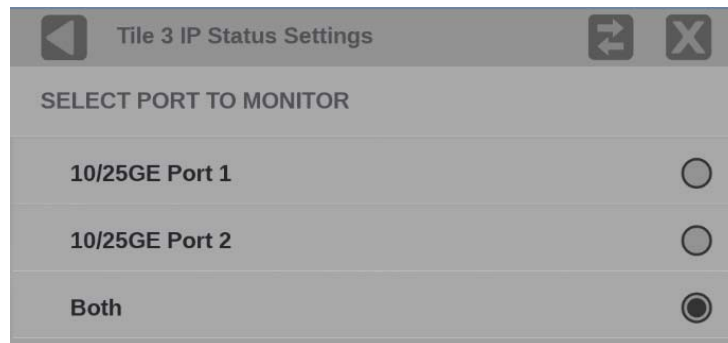

Figure 135: IP Status port settings
2. Open the IP Status settings menu; select and hold in the tile and select the  icon. (See Figure 135.)